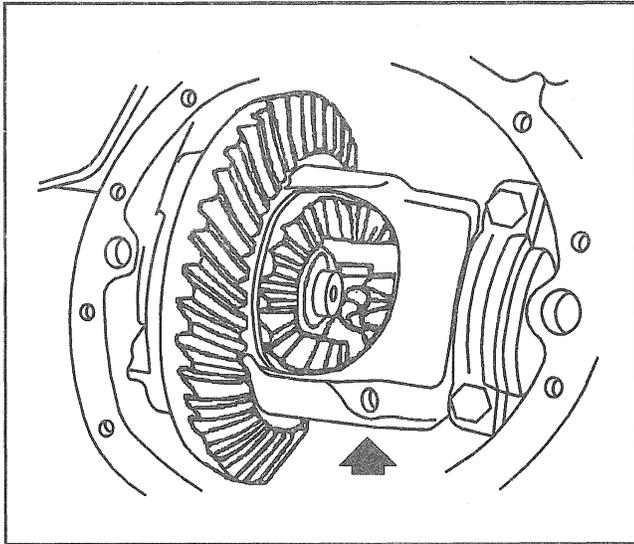

Figure 2—Pinion Shaft Lock Bolt
1. Differential cover bolts (14) and cover (12).
2. Pinion shaft lock bolt (15) (Figure 2).
3. Pinion shaft (17).
4. "C" clip (34) from the button end of the axle shaft (33).
- Push the axle shaft (33) in towards the center of the differential case (24).
5. Axle shaft (33) from the axle housing (1).
6. Seal (28) using an oil seal removing tool.
7. Bearing (27) using J 2619-01 and J 22813-01.
8. Pinion gear(21) and side gears (22).
- Roll the pinion gears out of the case with the pinion thrust washers (20).